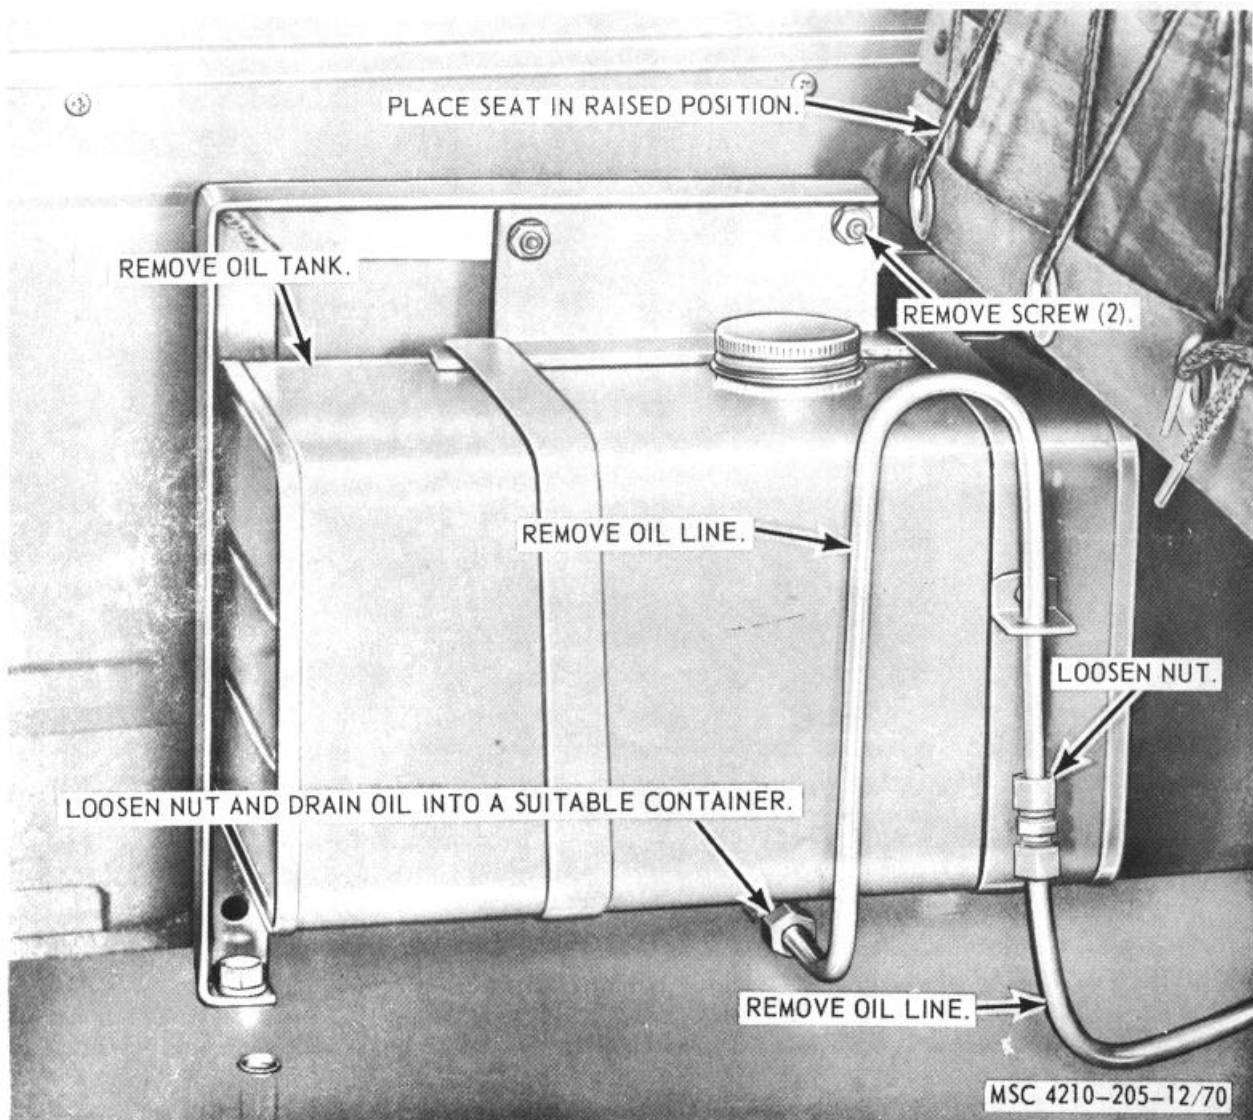

Figure 70. Oil tank and lines, removal and installation.
(1) Disconnect the oil line at the priming pump (para. 122).
(2) Refer to figure 70, and remove the oil tank and lines from the cab and priming pump).
(1) Refer to figure 70, and install the oil tank and lines on the cab and priming pump.
(2) Connect the oil line at the priming pump (para. 122).